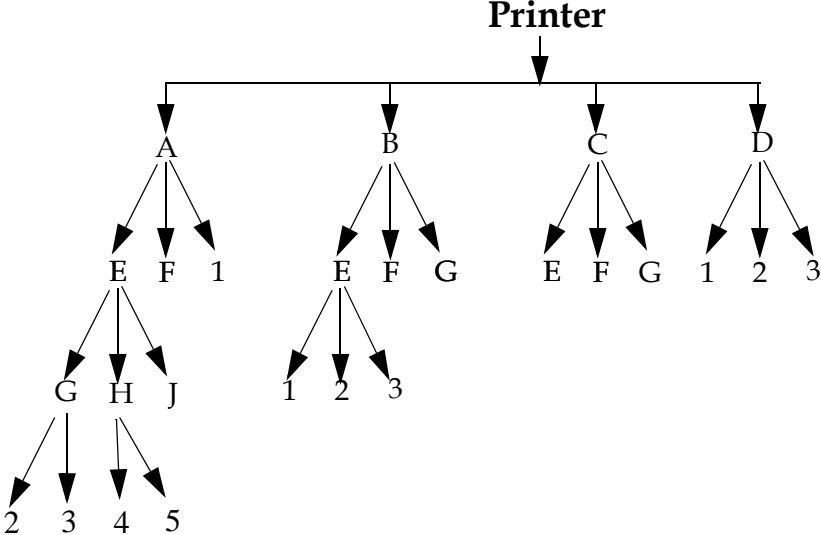

Figure 10-1: Graphical Representation of the Different Subassemblies and Parts
- An alphabet is assigned to the main assemblies of a printer and each sub assembly under the main assembly. See Figure 10-1 on page 10-3.
A natural number (1,2,3....) is assigned to the stand alone parts (in ascending order) through out the breakdown of main assemblies. See Figure 10-1.